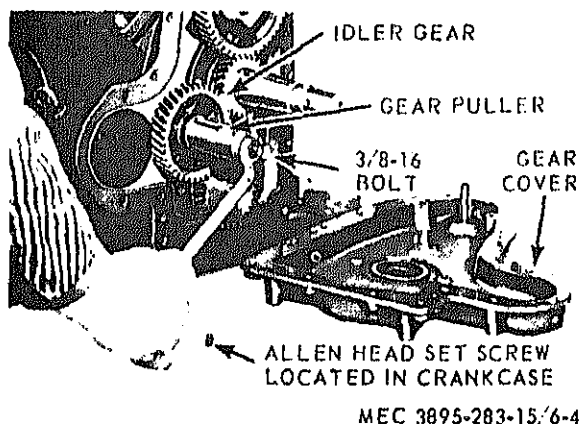

Figure 6-4. Idler Gear and Shaft Removal.
a. Removal (fig. 6-4).
(1) Remove Allen-head set screw on the magneto side of the crankcase which locks the idler shaft in position.
(2) With gear puller, remove idler shaft and idler shaft gear assembly.